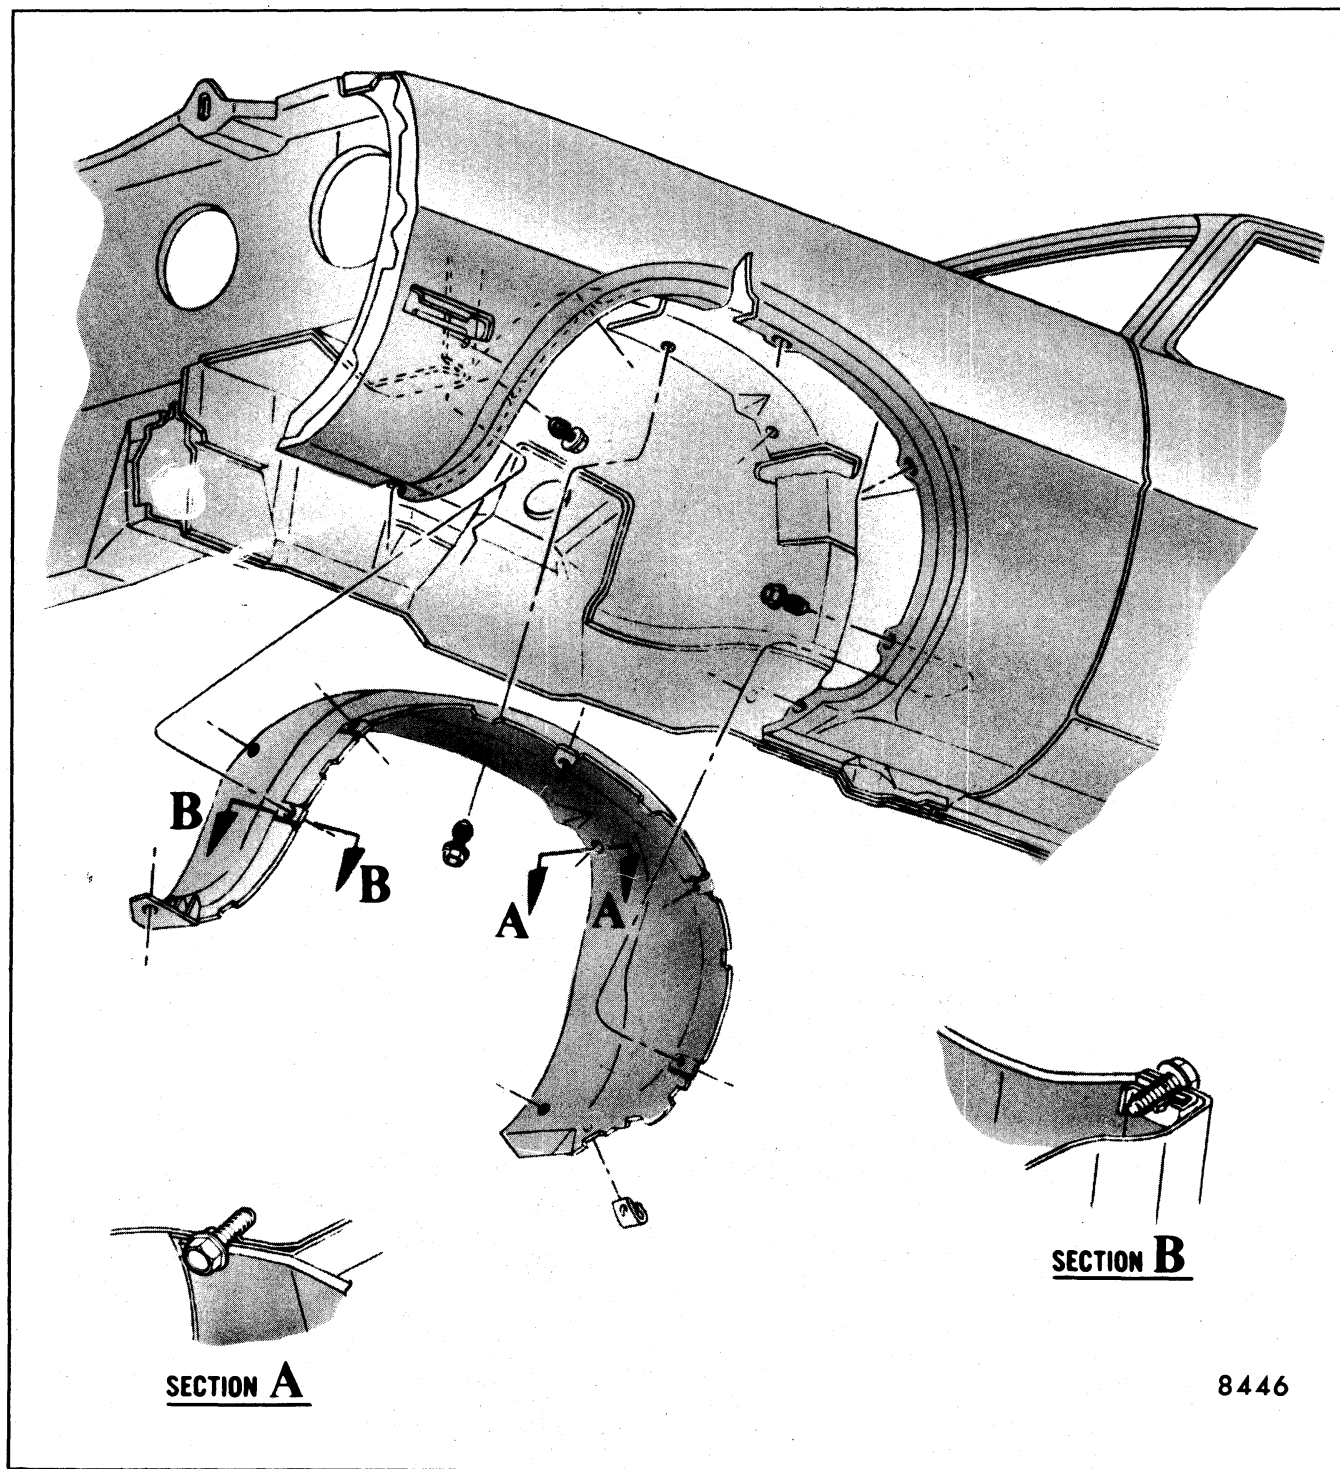

Fig. 4-26-Front Wheelhouse Outer Panel Retention
2. Remove front wheelhouse outer panel (Fig. 4-26).